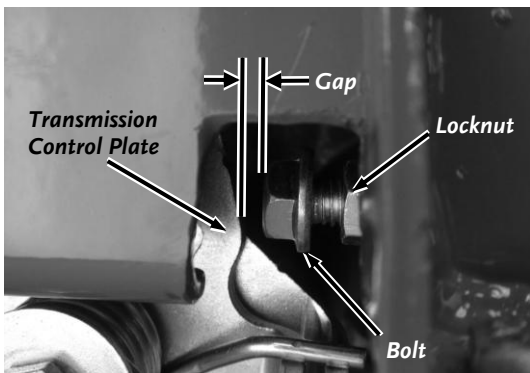

Figure 53
2. Use a narrow piece of 7 or 8 gage sheet metal, or other suitable material that is between 0.15 to 0.18 thick to check the gap between the Reverse Limit Bolt and the Transmission Control Plate on both Transmissions (**Figure 53**).